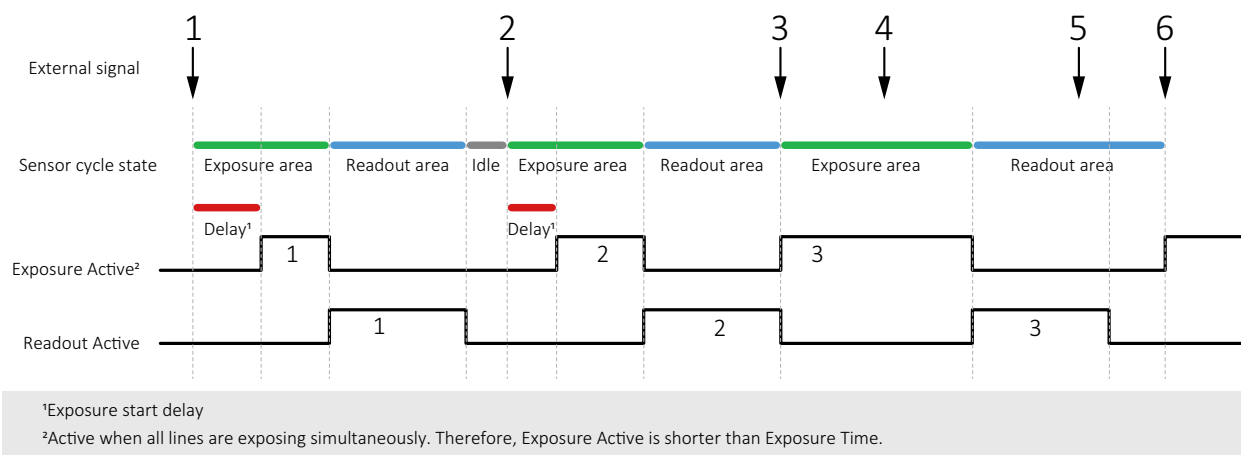

Figure 117: Triggering rolling shutter (RS) cameras
Figure 117 shows how an external signal triggers exposure and readout for cameras with rolling shutter (RS) sensors. Like for global shutter (GS) sensors, readout has a constant duration, acquisition must be active to enable exposure, the end of exposure starts readout.
The signals displayed in Figure 117 represent logical states, not user controls.